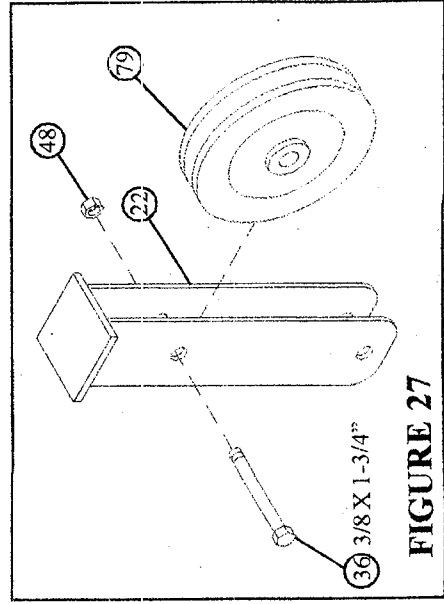

FIGURE 27
- Loop LAT CABLE (92) around pulley in FLOATING PULLEY BRACKET (22) as shown in FIGURE 27.
- Assemble one 3-1/2" PULLEY (79) to the FLOATING PULLEY BRACKET (22) using one 3/8 X 1-3/4" BOLI (36) and one 3/8" LOCKNUT (48) as shown in FIGURE 27.